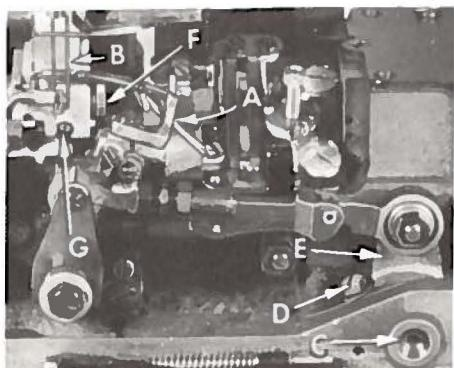
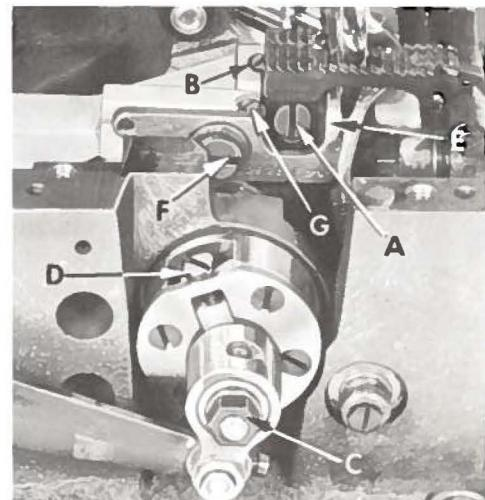

Fig. 5
Fig. 8
Insert the front looper (A, Fig. 5) in the looper rocker and turn handwheel in operating direction until the point of the looper, moving to the left is even with the left side of right needle (B). Note the height of the eye of the needle with respect to the looper point, then turn handwheel in the reverse direction until the looper point again moves to the left and is even with the left side of the right needle. If the motions synchronize, the height of the eye of the needle with respect to the looper point will be the same. A variation of .005 inch is allowable. If the distance from the eye of the needle to the point of the looper is greatest when the pulley is turned in the operating direction, move the looper drive shaft synchronizing stud (C, Fig. 5) to the rear. Moving it in the opposite direction acts the reverse.
Moving of the looper drive lever shaft synchronizing stud is accomplished as follows: Loosen the clamp screw (D, Fig. 5) of the looper drive lever (E). To move stud to rear (away from operator), a light tap with a small hammer, directly on the stud, is all that is required. To move stud forward (toward operator), remove the cloth plate, throat plate support, oil reservoir top cover and oil reservoir back cover, then, a light tap on the looper drive lever rocker shaft, toward the operator, is all that is required. Then, using the looper drive lever to take up the end play between the looper drive lever rocker shaft and its synchronizing stud, tighten the looper drive lever on the shaft, using screw (D, Fig. 5).
The tips of the feed dog teeth should extend the depth of a tooth or approximately $\frac{3}{64}$ inch above the throat plate and parallel with the throat plate at high point of travel. The height can be adjusted by loosening screw (A, Fig. 8) which holds the feed dog in position, turn height adjusting screw (B) as required and retighten screw (A). If feed dog teeth are not parallel with the throat plate, loosen nut (F, Fig. 5) and turn screw (G) clockwise to lower the front teeth, or counterclockwise to raise the front teeth. Retighten nut when feed dog is set properly.
Set the stitch to the required length. This is accomplished by loosening locknut (C, Fig. 8) (it has a left hand thread) and turning the stitch adjusting screw (D). Turning screw (D) clockwise shortens the stitch and turning it in a counterclockwise direction lengthens the stitch. The head of the mainshaft is marked with an "S" and an "L", moving the stitch regulating stud toward the "S" shortens the stitch and toward the "L" lengthens the stitch. Retighten locknut (C) after setting the stitch to the required length.
Set the rear needle guard (E, Fig. 8) horizontally so that it does not quiet contact the rear of the needles when at its most forward point of travel. A clearance of .005 inch is permissible. It should be set as low as possible, yet have its vertical face approach within about $\frac{3}{64}$ inch of the needles, until the points of the loopers moving to the left, are even with the needles. To move the guard forward or rearward, merely loosen screw (F), move needle guard as required, and retighten screw. To raise or lower needle guard, loosen screw (F) and turn screw (G) clockwise to lower needle guard or counterclockwise to raise it. Retighten screw (F) after guard is properly set.